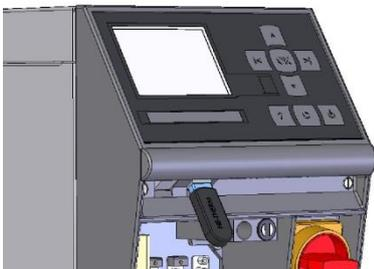

Fig. 53: Connect USB data carrier
2. Connect USB data carrier (Fig. 53).